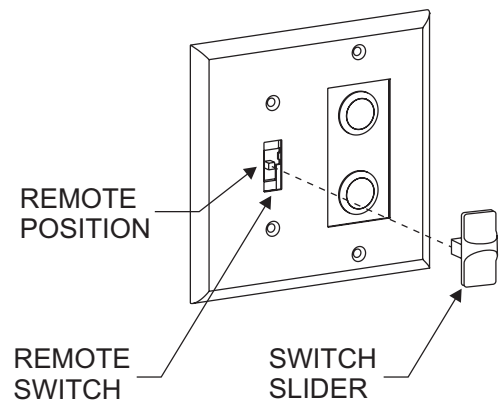

Figure 44
14. Set the remote switch in wall box to remote. (center position) See Figure 44.